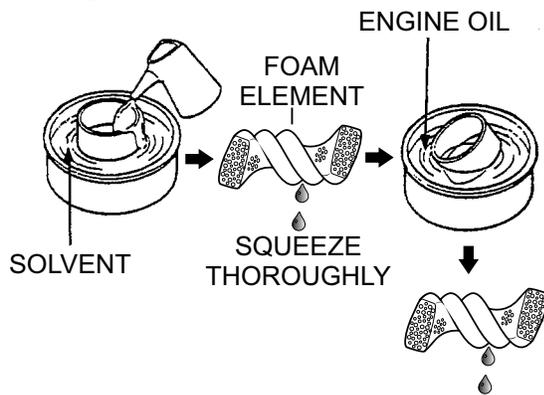

Figure 17. Cleaning Foam Element
- Clean foam element (Figure 17) in warm, soapy water or non-flammable solvent. Rinse and dry thoroughly.